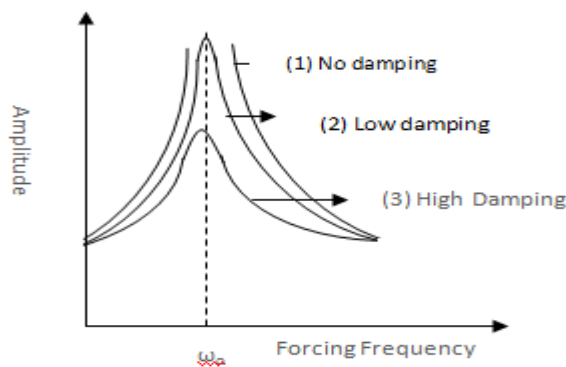

Figure 11: Effect of damping on sharpness of resonance
Figure 11, shows the variation of amplitude with forcing frequency for different amounts of damping. Curve (1) shows the variation of amplitude when there is no damping i.e., $b=0$. In this case the amplitude is infinite at $\omega_d = \omega$. This case is never realized in practice due to friction/dissipation forces, as a slight damping factor is always present. Curves (2) and (3) show the variation of amplitude with respect to low and high damping. It can be seen that the resonant peak moves towards the left as the damping factor is increased. It is also observed that the value of amplitude, which is different for different values of b (damping), diminishes as the value of b increases. This indicates that the smaller is the damping, sharper is the resonance or large is the damping, flatter is the resonance.